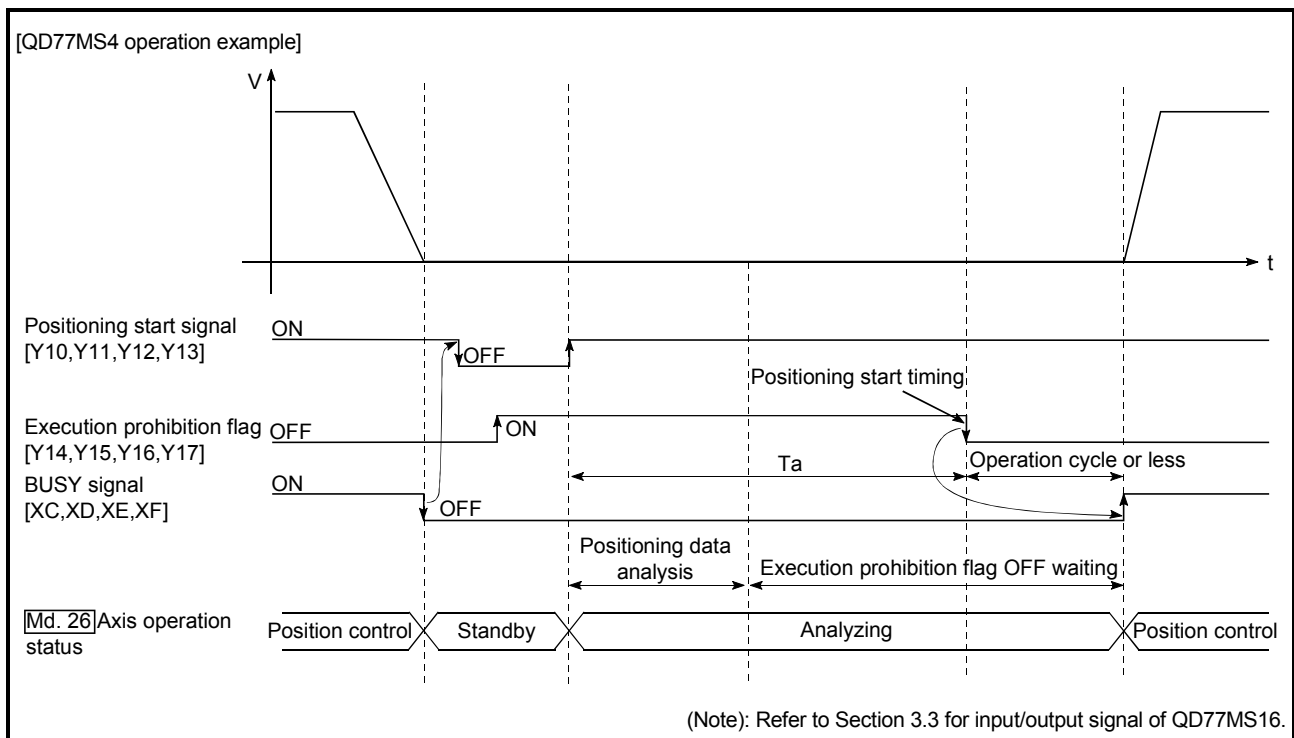

Fig. 13.48 Operations of pre-reading start function
The pre-reading start function is performed by turning ON the positioning start signal with the execution prohibition flag ON, or by executing the dedicated instruction (ZP.PSTR1, ZP.PSTR2, ZP.PSTR3, and ZP.PSTR4). However, if positioning is started with the execution prohibition flag ON, the positioning data is analyzed but servo start is not provided. While the execution prohibition flag is ON, "[Md.26] Axis operation status" remains unchanged from "5: Analyzing". The servo starts within operation cycle after the execution prohibition flag has turned OFF, and "[Md.26] Axis operation status" changes to the status (e.g. position control, speed control) that matches the control system. (Refer to Fig.13.48)
- (1) The time required to analyze the positioning data is up to 0.88ms (QD77MS2/QD77MS4)/3.55ms(QD77MS16).
- (2) After positioning data analysis, the system is put in an execution prohibition flag OFF waiting status. Any change made to the positioning data in the execution prohibition flag OFF waiting status is not reflected on the positioning data. Change the positioning data before turning ON the positioning start signal.
- (3) The pre-reading start function is invalid if the execution prohibition flag is turned OFF between when the positioning start signal has turned ON and when positioning data analysis is completed ($T_a < \text{start time}$, T_a : Refer to Fig. 13.48).
- (4) The data No. which can be executed positioning start using "[Cd.3] Positioning start No." with the pre-reading start function are No. 1 to 600 only. Performing the pre-reading start function at the setting of No. 7000 to 7004 or 9001 to 9004 will result in an outside start No. range error (Error code: 543).
- (5) Always turn ON the execution prohibition flag at the same time or before turning ON the positioning start signal. Pre-reading may not be started if the execution prohibition flag is turned ON during T_a after the positioning start signal is turned ON. The pre-reading start function is invalid if the execution prohibition flag is turned ON after positioning start with the execution prohibition flag OFF. (It is made valid at the next positioning start.)